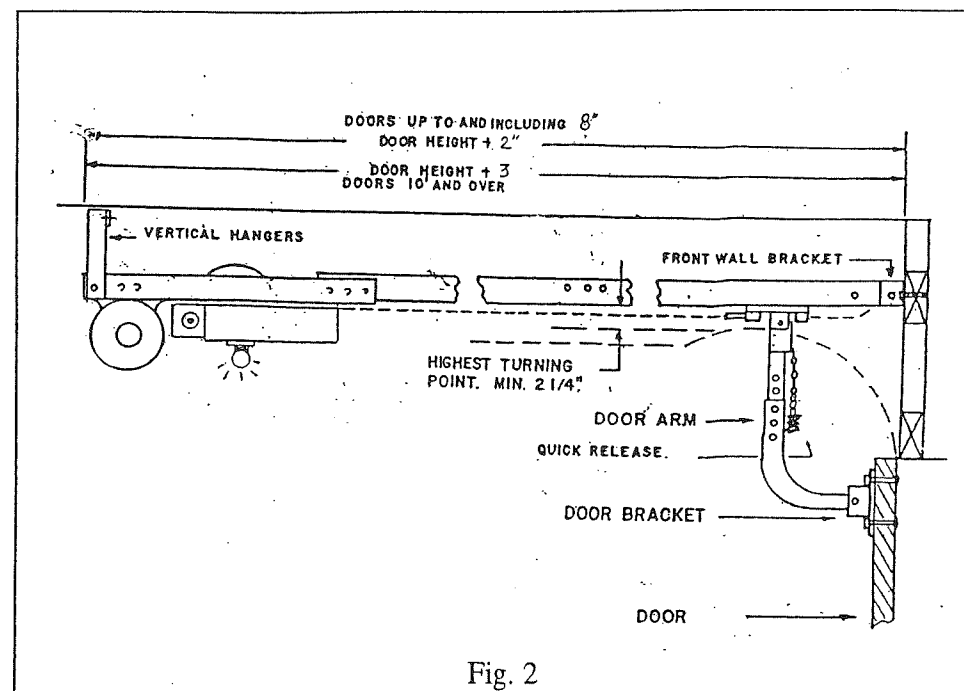
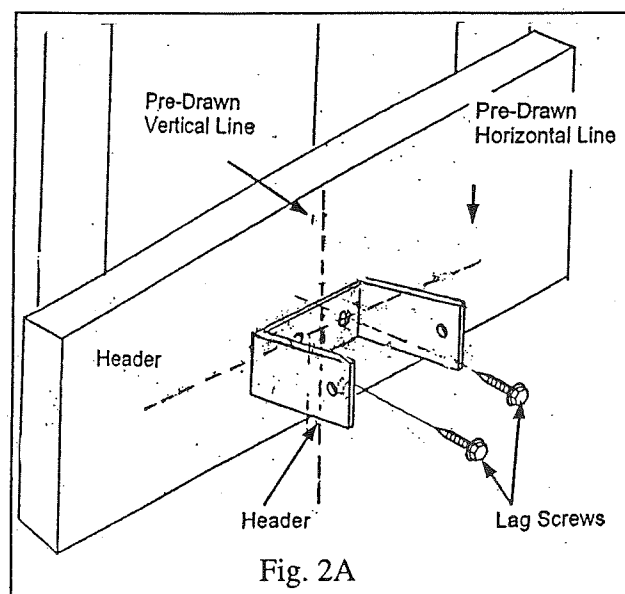

Fig. 2
Fig. 2A
Before proceeding, check Fig. 2 and Fig. 2A and the clearances required. All trolley type operators are designed to mount directly over the center of the door and the track should clear the door by approximately 2 1/4". In case of obstruction in the center of the door, the operator can be mounted off to one side, however, more than one foot off center may affect the operation of the door if extension springs are used. Operator should not be installed on a door having more than 18" of high lift, unless 30" radius track is used on the door; then a few more inches can be gained.
Step 1: Open door manually to determine the highest arc of door travel. See Fig. 2. Mark this height on the header above the center of the door.
Step 4: Open the door by hand and locate the rear end of the operator tracks so that it lines up with the centerline of the door. Make sure to have at least 2 1/4" of clearance between the door and the operator track, but not more than 4" clearance. Hanging brackets may now be installed from operator to ceiling. See Fig. 2. Holes are provided in the operator for this purpose. After vertical hangers are made secure, fasten side braces to prevent any side movement. Holes are provided for center hangers approximately six feet from the end. Two vertical hangers and one side brace is recommended. This is for all doors over 10' high.
Step 5: Close door, move the carriage to within 2 1/2" of its most forward position. Hook the door arm over the 3/8" bolt in carriage. Bolt bracket to door as shown in Fig. 2